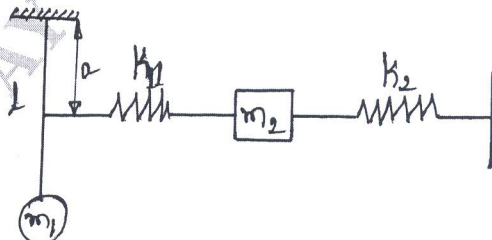

Fig.Q.4(b)
- b. Using the Hamilton principle find the equation of motion for the system shown in Fig.Q.4(b). (08 Marks)